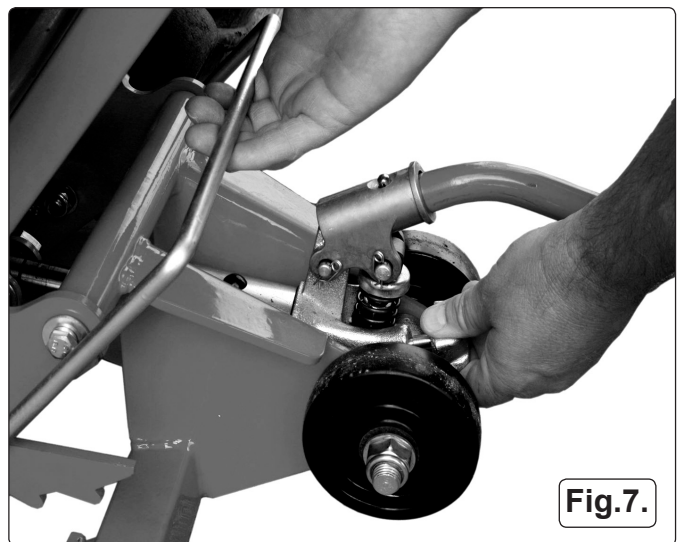

Fig.7.
- 3.3.3. Lift the safety device bar and very slowly turn the release valve counter-clockwise (fig.7). Carefully control the rate of descent and continue until the load is completely lowered to the ground. Turn the release valve clockwise to close it.